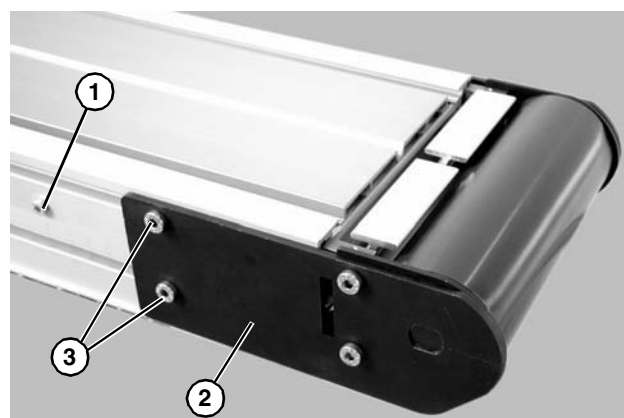
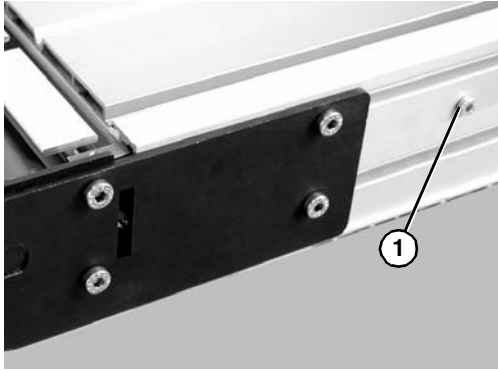

Figure 5
Figure 6
2. On tension end of the conveyor, identified by the pinion locking screw (Figure 5, item 1), push in head plate assembly (Figure 5, item 2): Loosen the pinion locking screw (Figure 5, item 1), adjust the pinion torque screw (Figure 6, item 1). On both sides of conveyor, loosen the two tail clamp bolts (Figure 5, item 3), and push head plate assembly (Figure 5, item 2) inward.